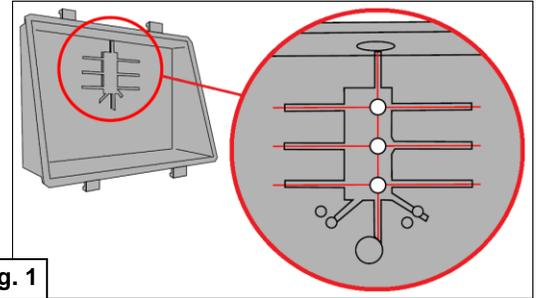

Fig. 1
2. Use raised guide lines to drill three 9mm or S sized holes in all pack's mounting plate (Fig. 1). These holes will be used to fasten the all pack to the adjustable slip fitter.